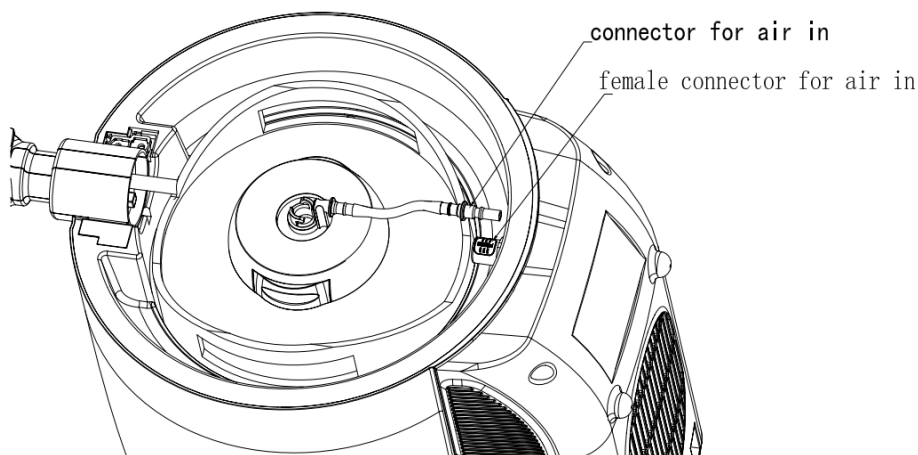

FIGURE 8
9. Insert the quick air inlet connector at the end of the beer pipe on the beer valve device into the quick air inlet socket, and you can hear a slight click to indicate that it has been connected (as shown in Figure 8).